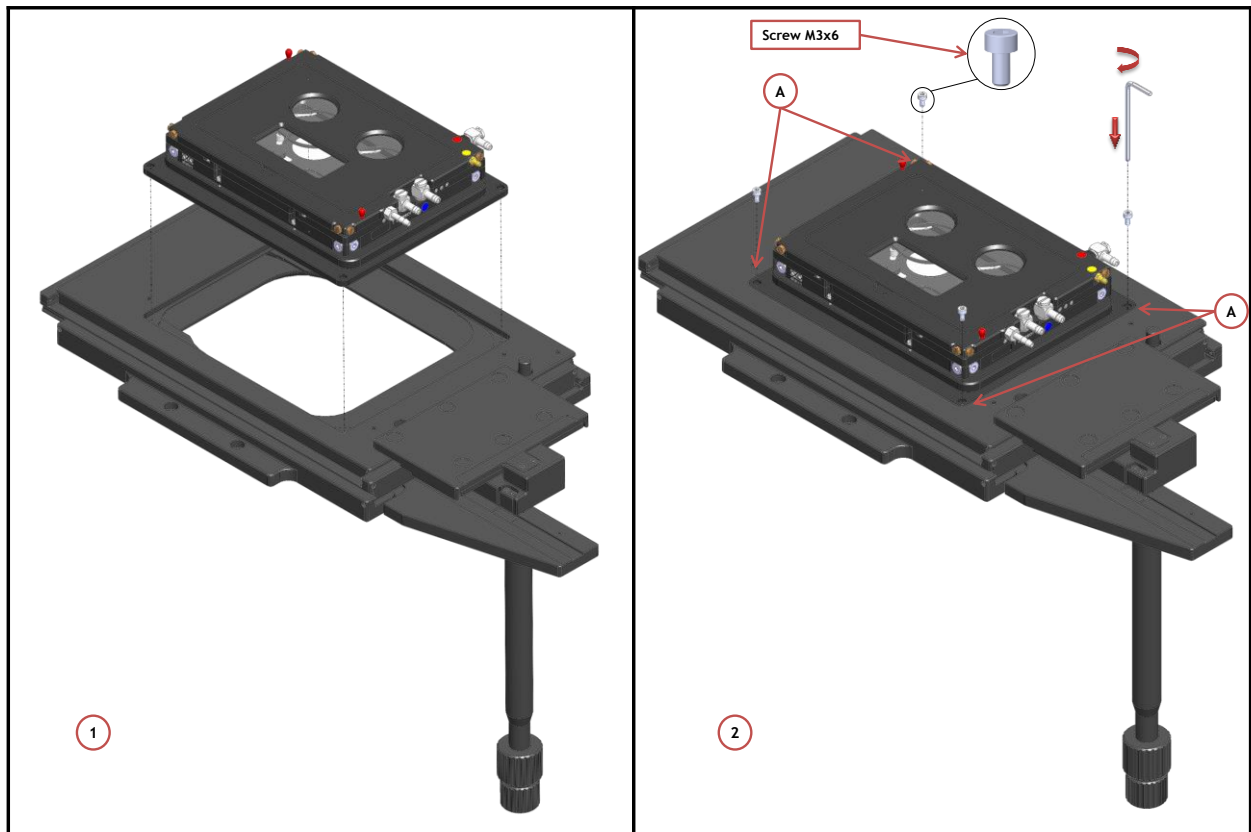

Figure 18. Connecting the Chamber with XY Stage
Once you have assembled the chamber with adapter you can place it on the XY stage, following the steps shown in Figure 18.
5. Place the adapter on the stage (See Figure 18 Image 1).
6. Follow the instructions shown in Image 2 of Figure 18 for placing socket head cap screws; use the provided Allen wrench to tighten the socket head cap screws and to fasten the adapter on the stage. Screws housings are indicated with letter A in Image 2 of Figure 18.